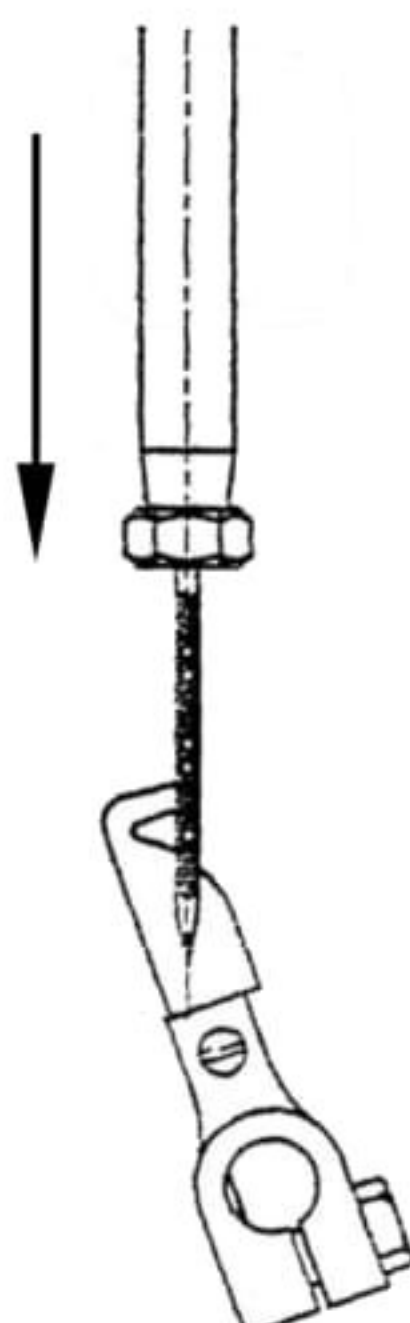

FIG.08
C. Adjustment / Side clearance between the looper & needle. (Fig. 08 & 09)
- a. Turn the gear(6001401) to the position of which the top end of looper just exceed the side surface of needle and check whether the distance between the top end of looper and needle is about 0.03~0.045 mm. (see also Fig. 08)